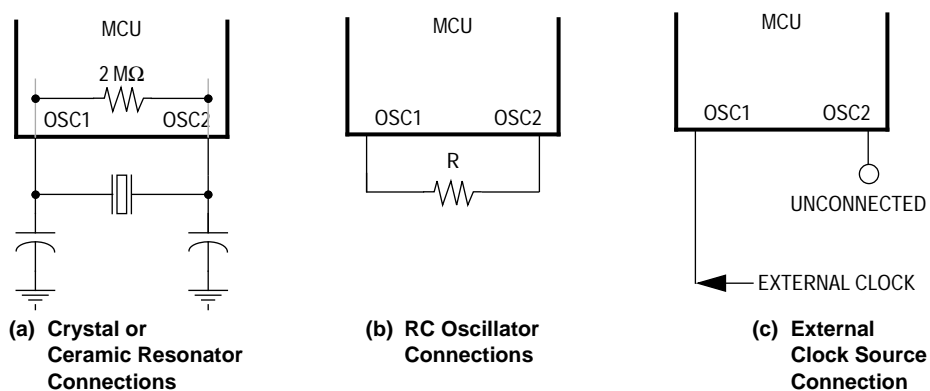

Figure 1-3. EPO Oscillator Connections
1. A crystal as shown in Figure 1-3 \(a\)
2. A ceramic resonator as shown in Figure 1-3 \(a\)
3. An external resistor as shown in Figure 1-3 \(b\)
4. An external clock signal as shown in Figure 1-3 \(c\)
The circuit in **Figure 1-3 (a)** shows a typical oscillator circuit for an AT-cut, parallel resonant crystal. The crystal manufacturer's recommendations should be followed, as the crystal parameters determine the external component values required to provide maximum stability and reliable startup. The load capacitance values used in the oscillator circuit design should include all stray capacitances. The crystal and components should be mounted as close as possible to the pins for startup stabilization and to minimize output distortion. An internal startup resistor of approximately $2\text{ M}\Omega$ can be provided between OSC1 and OSC2 for the crystal type oscillator by use of the OSCRES bit in the MOR.
In cost-sensitive applications, a ceramic resonator can be used in place of the crystal. The circuit in **Figure 1-3 (a)** can be used for a ceramic resonator. The resonator manufacturer's recommendations should be followed, as the resonator parameters determine the external component values required for maximum stability and reliable starting.
The lowest cost oscillator is the RC oscillator configuration where a resistor is connected between the two oscillator pins as shown in Figure 1-3 \(b\). The internal startup resistor of approximately 2 M Ω is not recommended between OSC1 and OSC2 for the RC-type oscillator.
An external clock from another CMOS-compatible device can be connected to the OSC1 input, with the OSC2 input not connected, as shown in Figure 1-3 \(c\). This oscillator can be selected via software. This configuration is possible regardless of whether the crystal/ceramic resonator or RC oscillator configuration is used.